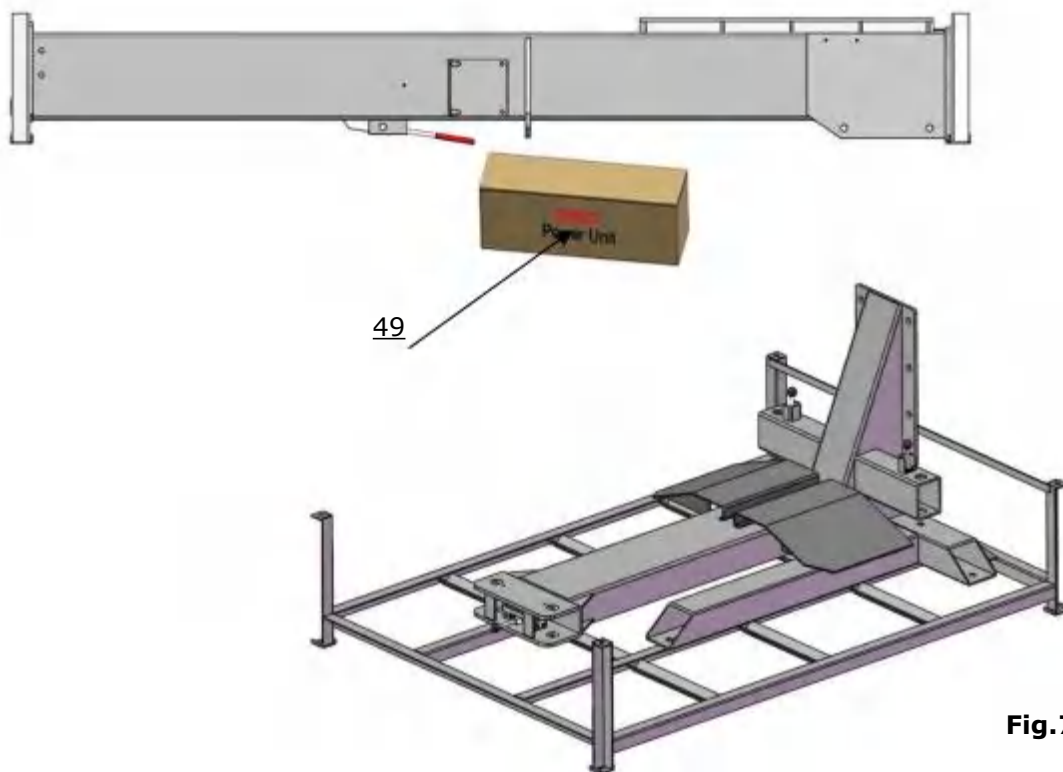

Fig.7
1. Received package (lift and hydraulic power unit) **(See Fig. 7)**